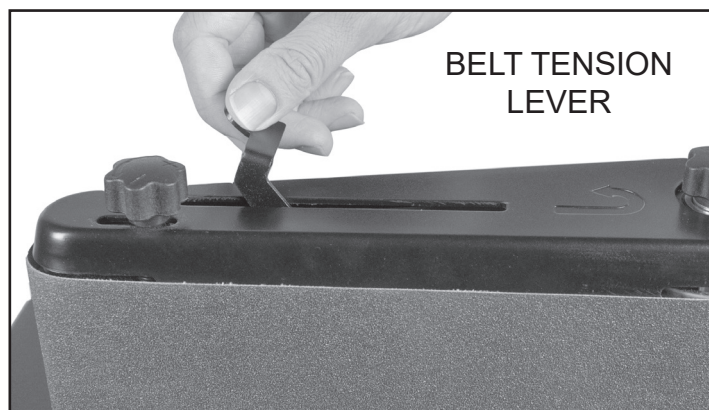

FIG. 14
2. To release the tension on the sanding belt, slide the Belt Tension Lever to the right, towards the embossed direction arrow and the large belt driving drum. FIG. 14.